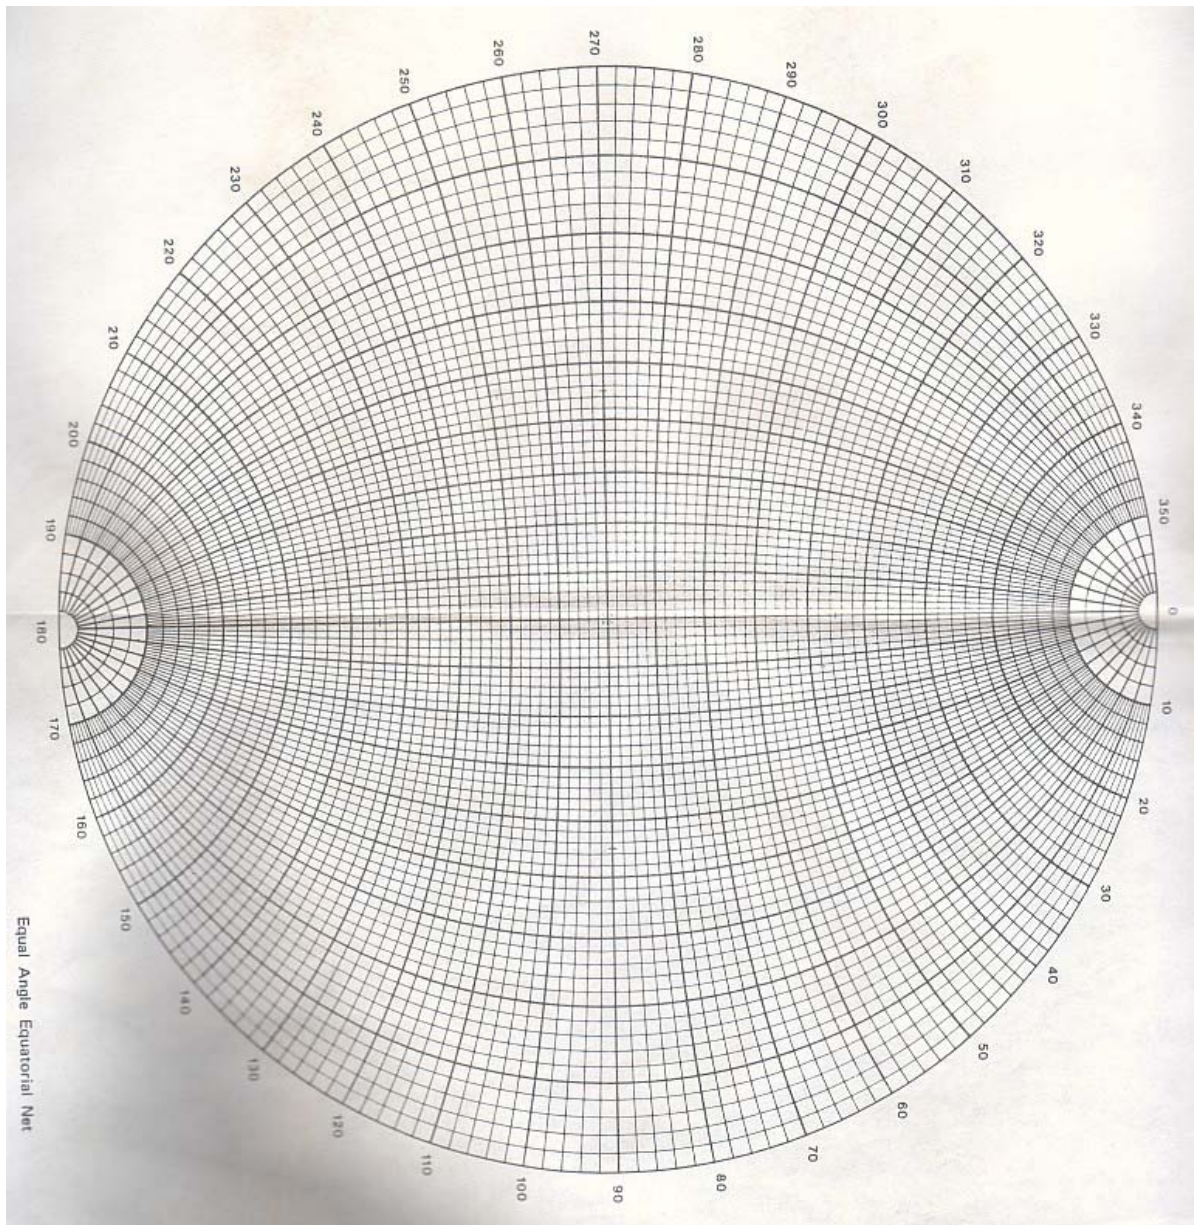

Figure 3
3. A joint with angle of friction of  $35^\circ$  dips  $50^\circ$  N30W. A block weighing 200 MN rests on the joint. The slope arrangement allows the block to slide (stereonet is given as Figure 3)
4. A cut is to be made in N50W – S50E direction, with rock cut to face the direction of N40E. Assume the angle of friction for all joints as  $25^\circ$ . The following joint data (Table 1) represent those of a rock mass (stereonet is given as Figure 3).